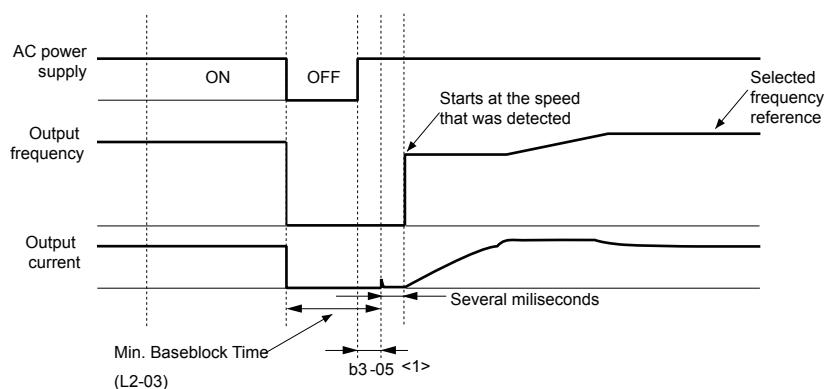

Figure 5.11 Speed Search after Baseblock
**Note:** If the Run command is quickly switched off and then back on again when the drive is set to “Coast to stop” as the stopping method, Speed Search will operate as shown in **Figure 5.11**.